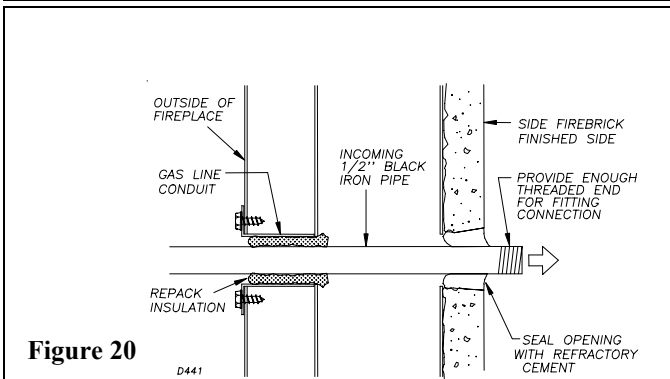

Figure 20 D441
STEP 3: Run a ½ inch black iron gas line into the fireplace through the gas line conduit sleeve. Provide sufficient gas line into fireplace chamber for fitting connection (see figure 20).